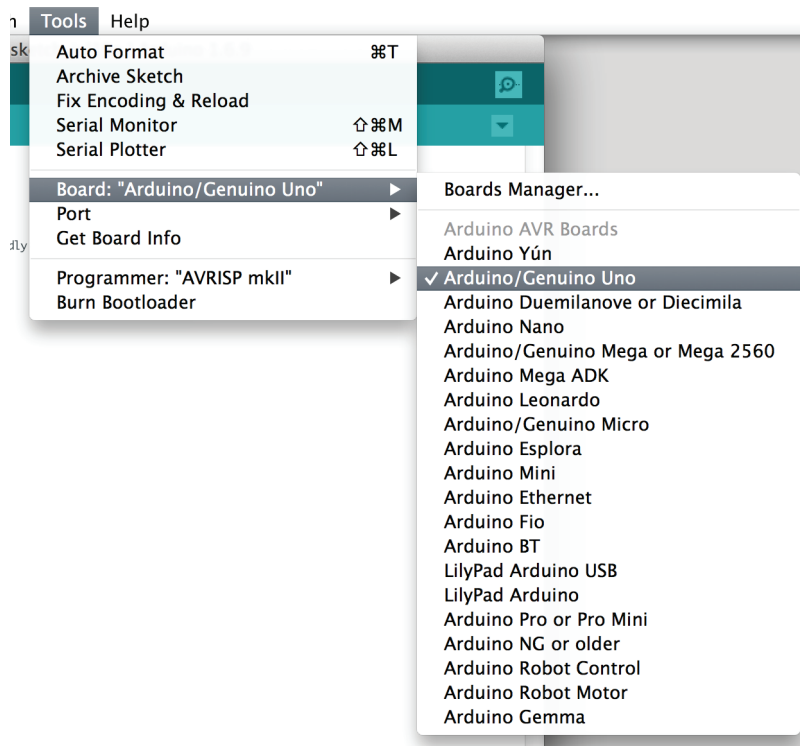

FIGURE 4.28: Make sure you have selected the correct board.
- You have selected the right board type and serial port from the menus (Figure 4.28).